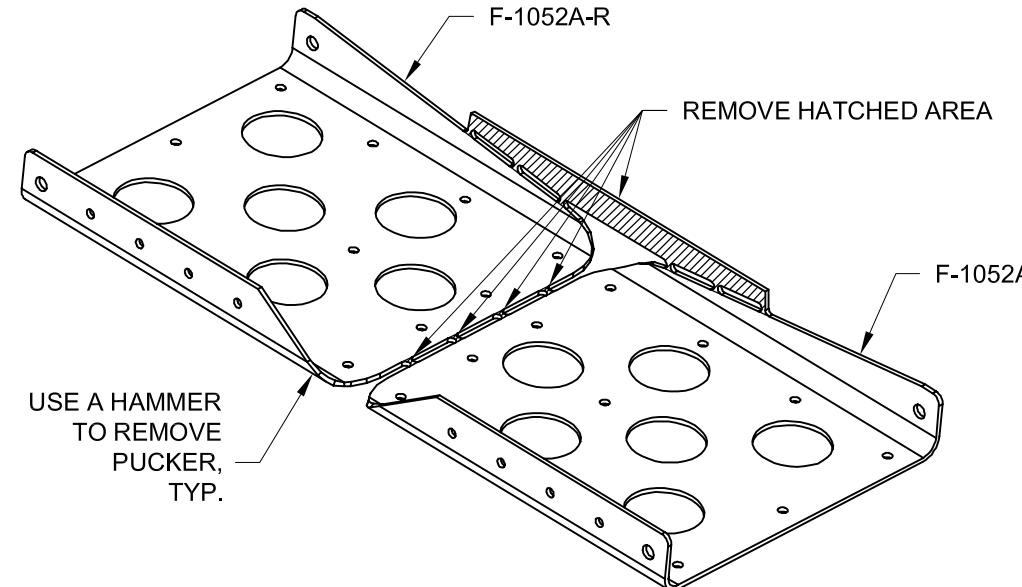

FIGURE 1: CREATING THE BRAKE PEDALS
Step 1: Remove the hatched area as shown in Figure 1 from both F-1052 Brake Pedal Sets to create two F-1052A-L and -R Brake Pedals. Remove the tabs and deburr the edges on all the brake pedals.